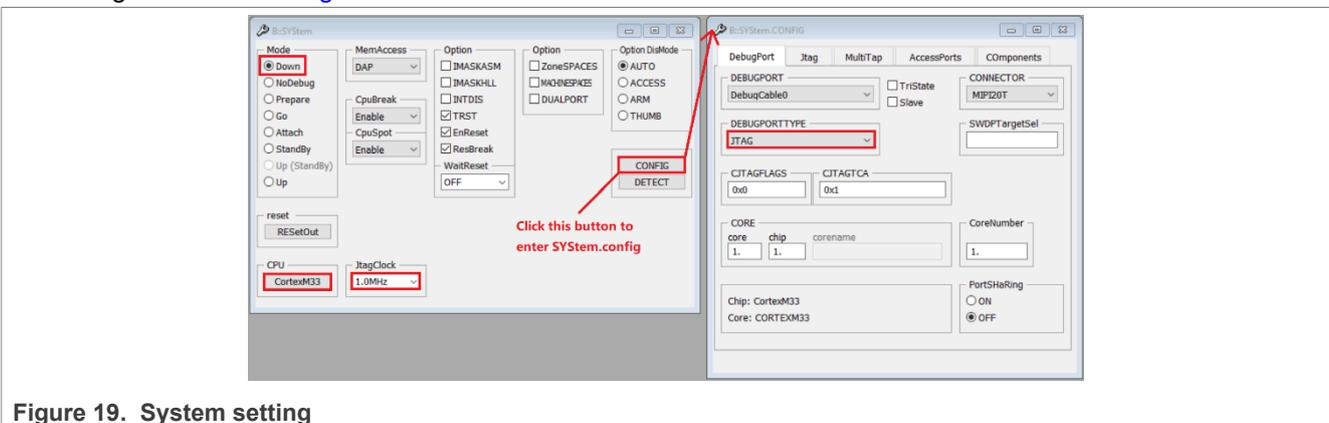

Figure 19. System setting
3. Click **CPU -> System Settings...** in the menu bar, and the system setting dialog appears. Perform system settings as shown in Figure 19.